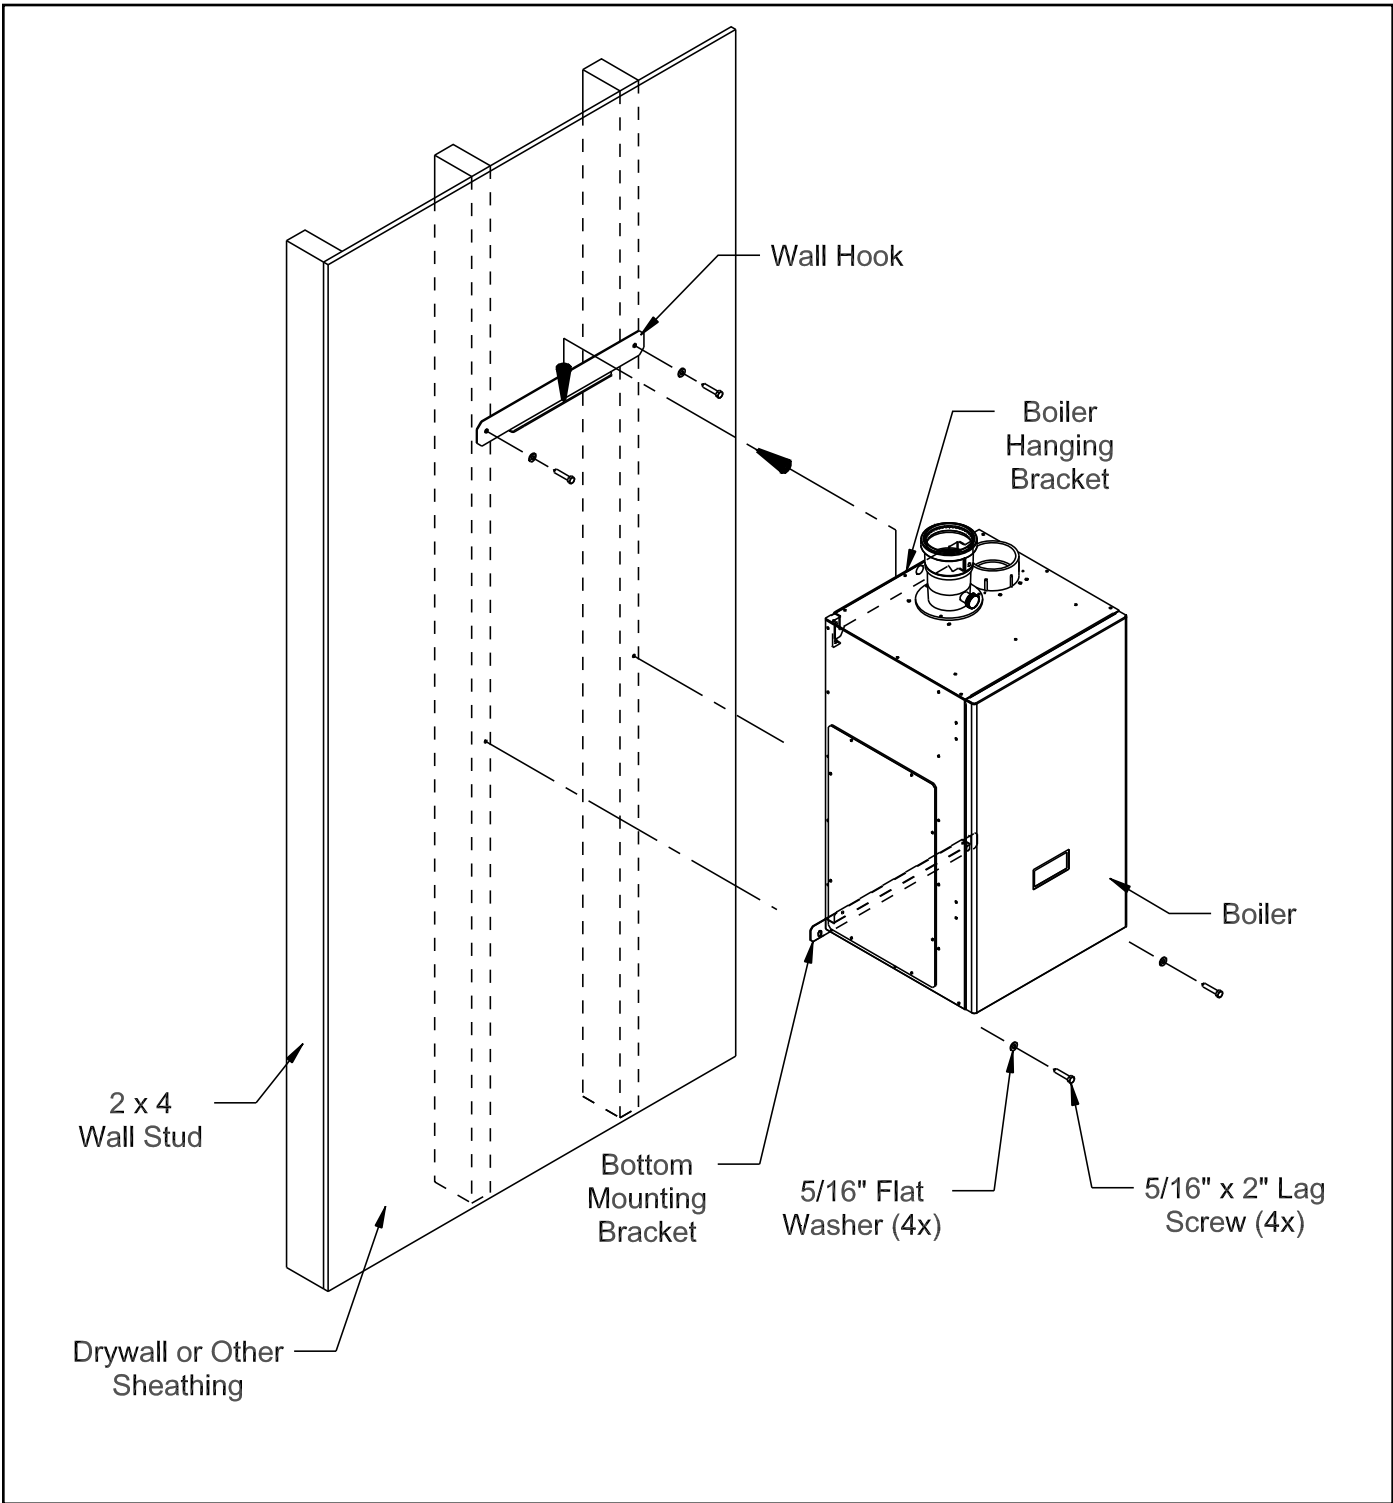

Figure 5.2 Boiler Mounting Bracket Installation / Boiler Wall Mounting
- 6) The wall mounting hook is used to secure the boiler to the shipping pallet. Remove this hook from the pallet and secure to the wall using the $\frac{5}{16}$ " x 2" lag screws and washers, or other suitable anchors as appropriate (Figure 5.2). Make sure the hook is level.
- 7) Hang the boiler on the wall hook as shown in Figure 5.2.
- 8) If not already done in Step (5) locate and drill holes "C" and "D" using the obround slots in the bottom mounting flange. Secure the bottom flange to the wall using the $\frac{5}{16}$ " x 2" lag screws, or other fasteners as appropriate (Figure 5.2).